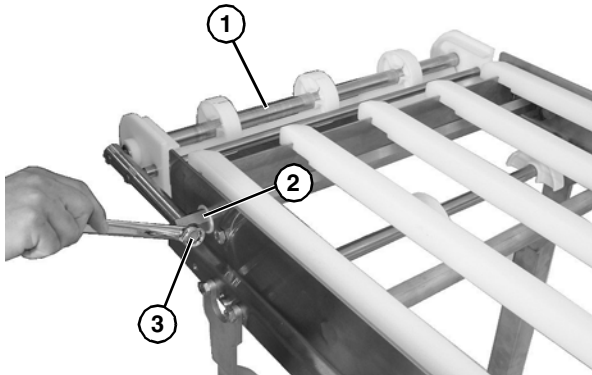

Figure 19
1. Place the idler tail assembly (**Figure 19, item 1**) against the holes in the tip up hex shaft assembly (**Figure 19, item 2**) and secure with a bolt (**Figure 19, item 3**) on each side.